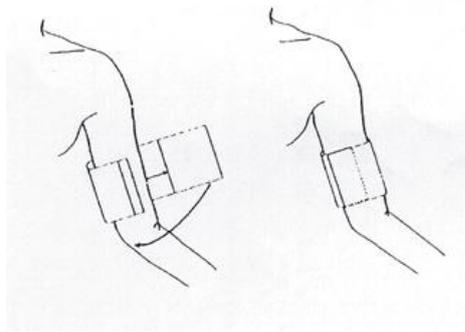

Figure 5-2 Applying Cuff
2. Apply the blood pressure cuff to the patient's arm or leg following the instructions below (Figure 5.2).